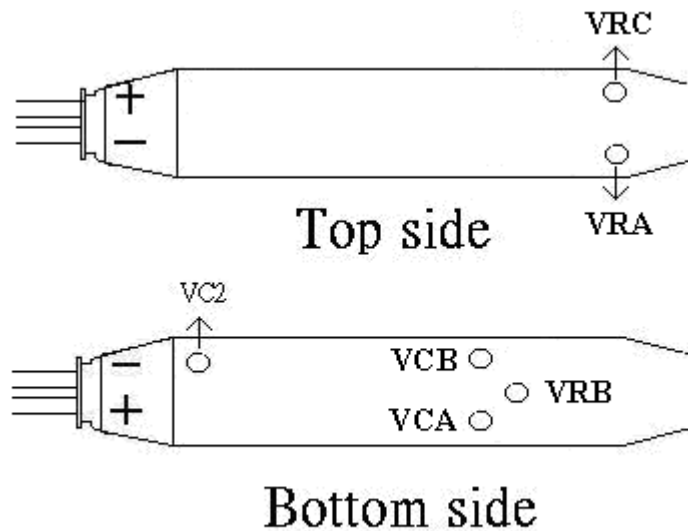

Fig. 2
- A-3. Remove the plastic cases. Figure 2 shows the location of adjustments on topside and bottom side of the metal case.